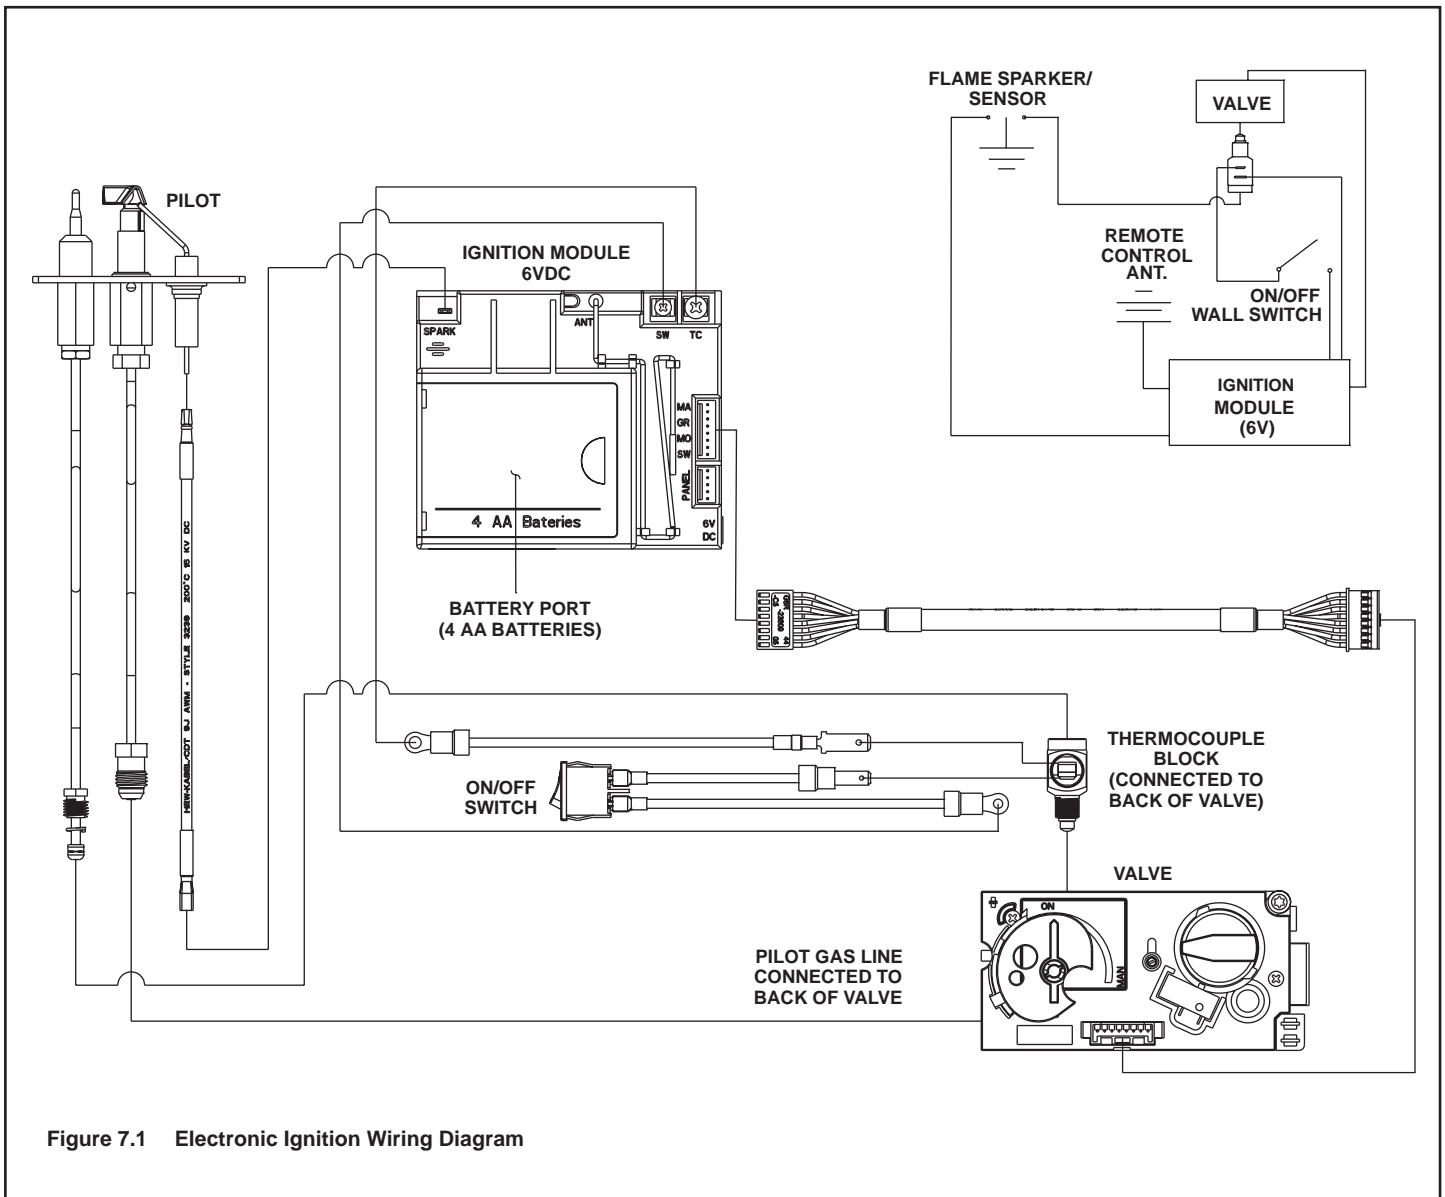

Figure 7.1 Electronic Ignition Wiring Diagram
- The batteries are located within the ignition module which is located behind the glass door assembly. A wiring diagram is shown in Figure 7.1.